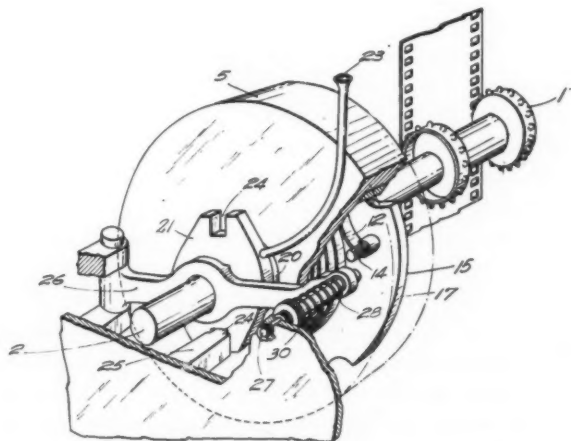
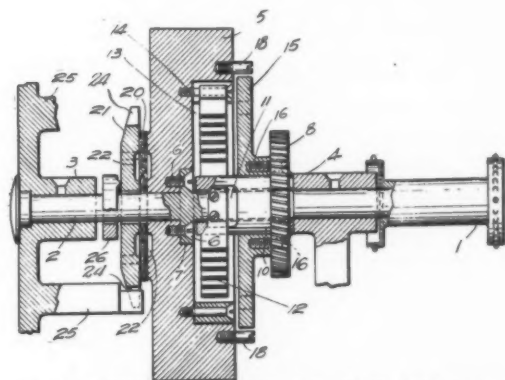

Fig. 1—Rotary motion is transmitted from gear to flywheel through spiral spring
Fig. 2—A viscous braking or damping device is employed to prevent fluctuations in speed
SPEED control in apparatus for sound recording and reproducing requires careful consideration and it is therefore the aim of E. H. Greibach to provide a device to meet this requirement. The mechanism, *Figs. 1 and 2*, recently was granted patent No. 1,962,303 which has been assigned to Westinghouse Electric & Mfg. Co.
Rotary motion is transmitted to gear 8, *Fig. 2*, from a prime mover (not shown) and from the gear to flywheel 5 through a spiral spring 12, *Figs. 1 and 2*. In sound recording and reproducing however, approximate uniformity of film travel such as obtained by this combination spring and flywheel, is not enough, since the slightest variation in the speed of the film will result in a distorted record.
21. The plate and the surface of the flywheel against which the leather ring bears are provided with an annular channel 22. This channel in the plate is kept filled with oil through a tube 23, *Fig. 1*.